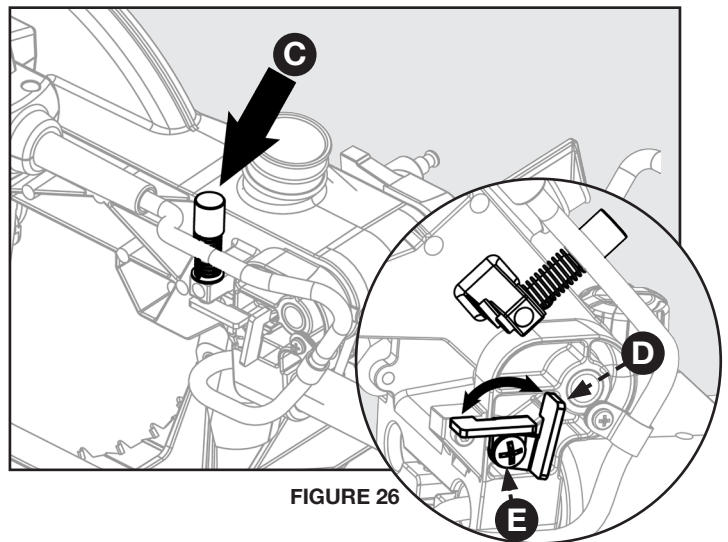

FIGURE 26
Refer to Figure 26 and follow these instructions in order to set the depth stop at a specific cut depth: use a Phillips head screwdriver to loosen screw (E) and then rotate the stop bracket (D) counterclockwise into the down position. Make sure to re-tighten screw (E). The cut depth can now be adjusted by turning the depth adjustment screw (C).
Refer to figure 26 and follow these instructions in order to make a through cut: use a Phillips head screwdriver to loosen screw (E) and then rotate the stop bracket (D) clockwise into the up position. Make sure to re-tighten screw (E).